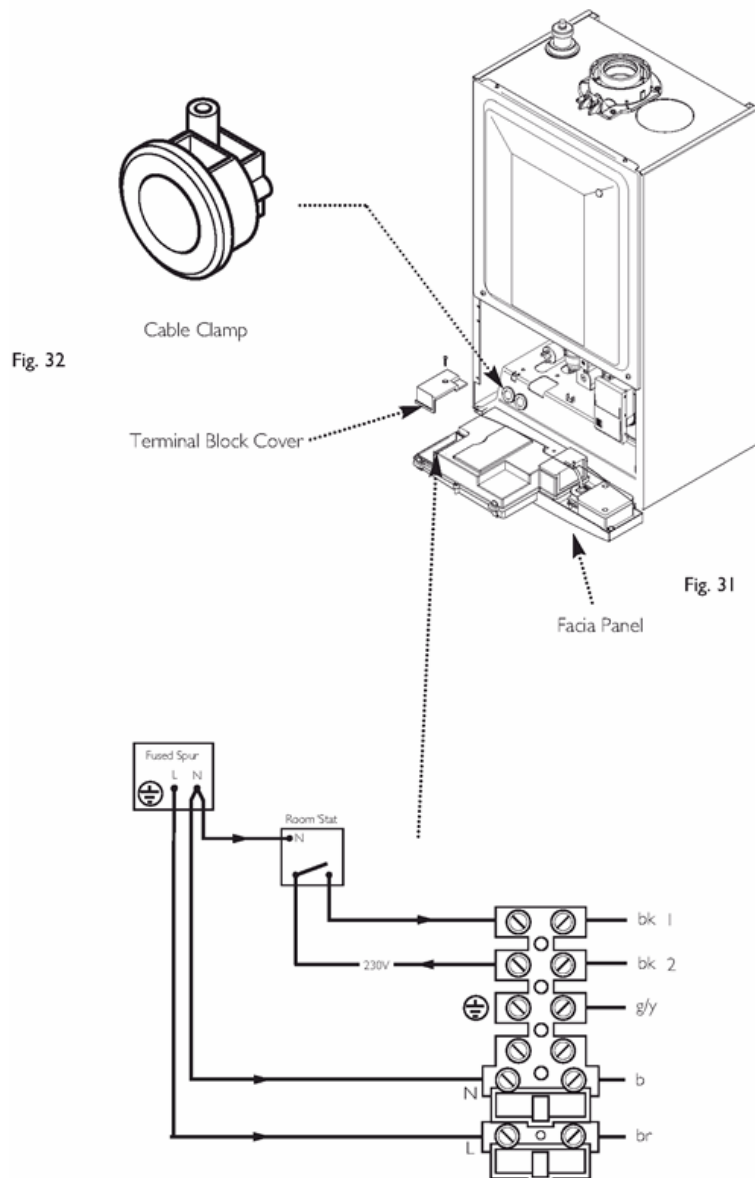

Fig. 31 & Fig. 32
2. Completely undo the screws securing the facia panel and hinge it down (Fig. 31).
3. Undo the terminal block cover securing screw and remove the cover (Fig. 31).